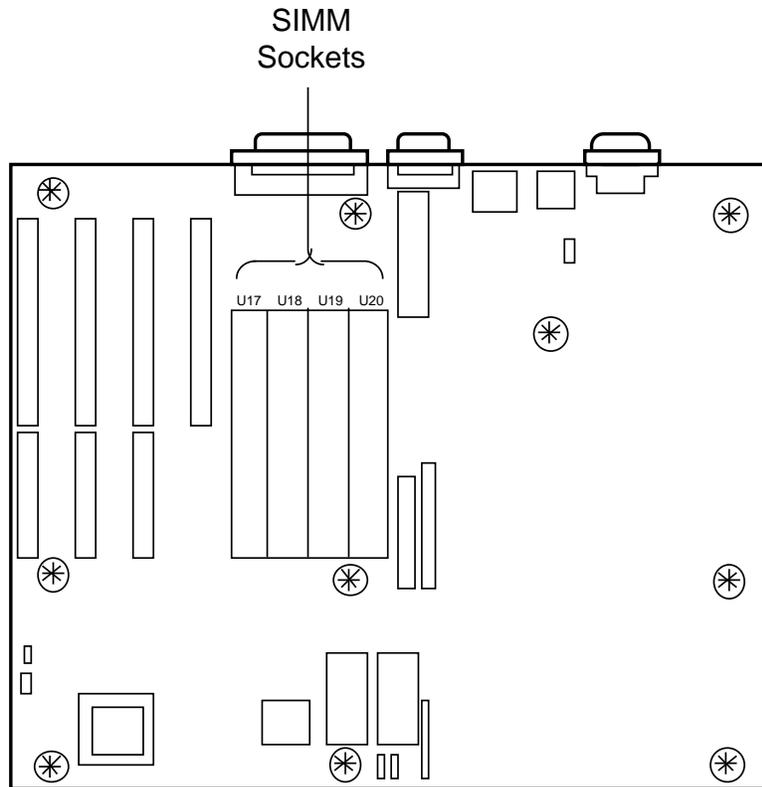

Figure A-12. Location of SIMM Sockets in Master Controller II
1. Locate the empty SIMM sockets, as shown in Figure A-12.